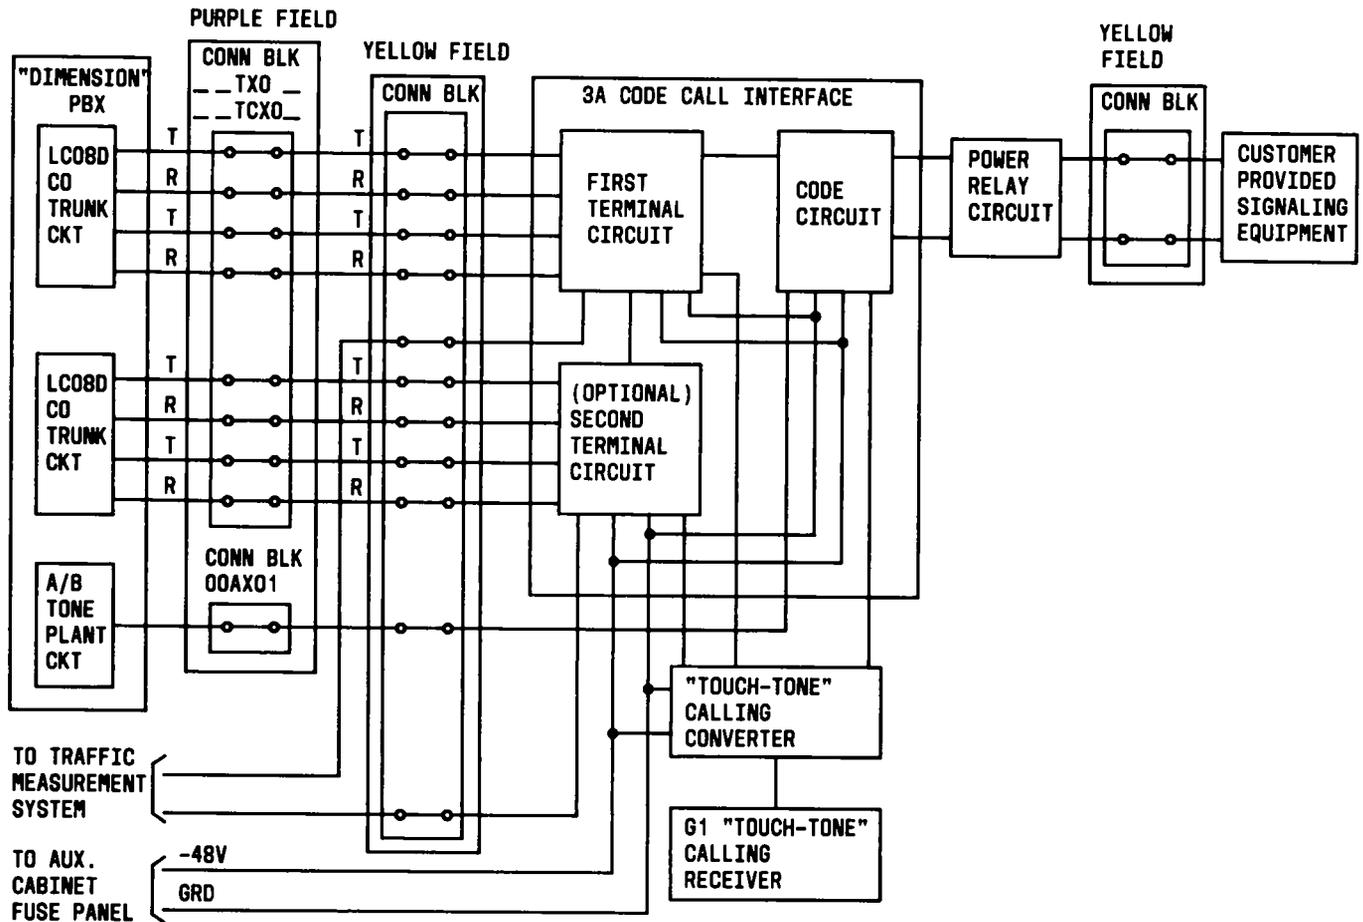

Fig. 19—General Connection Diagram for 3A Code Call Access
6.23 The 3A code call unit may have two incoming ports and two answer ports. These four ports are connected to CO trunk circuits (LC08D) via the cross-connect field (Fig. 19). In a PBX with light traffic, only one incoming port and one answer port may be required. The second incoming port and answer port are optional and can be used in PBX systems where heavy traffic is anticipated.